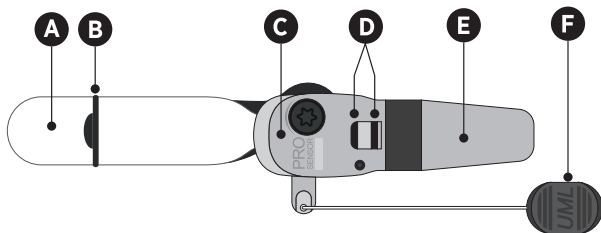
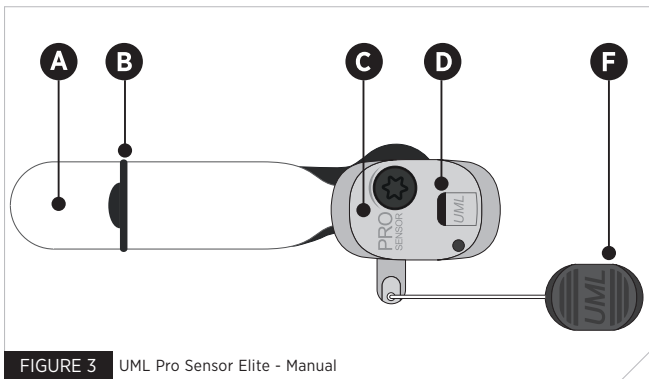

FIGURE 2 UML Pro Sensor Elite - Automatic
FIGURE 3 UML Pro Sensor Elite - Manual
AUTOMATIC (Fig. 2)
AUTOMATIC & MANUAL (Automatic see Fig. 2, for Manual see Fig 3)
2. For Automatic or Hydrostatic models, ensure the inflation mechanism's expiry date has not passed (Fig. 2, 4 E & 5A). If expired, re-arm your device (See Re-arming your PFD P.12)